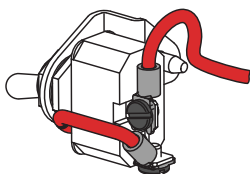

Figure 15
4. Unscrew both terminals and remove red pump wires from the back of the switch (see Figure 15).